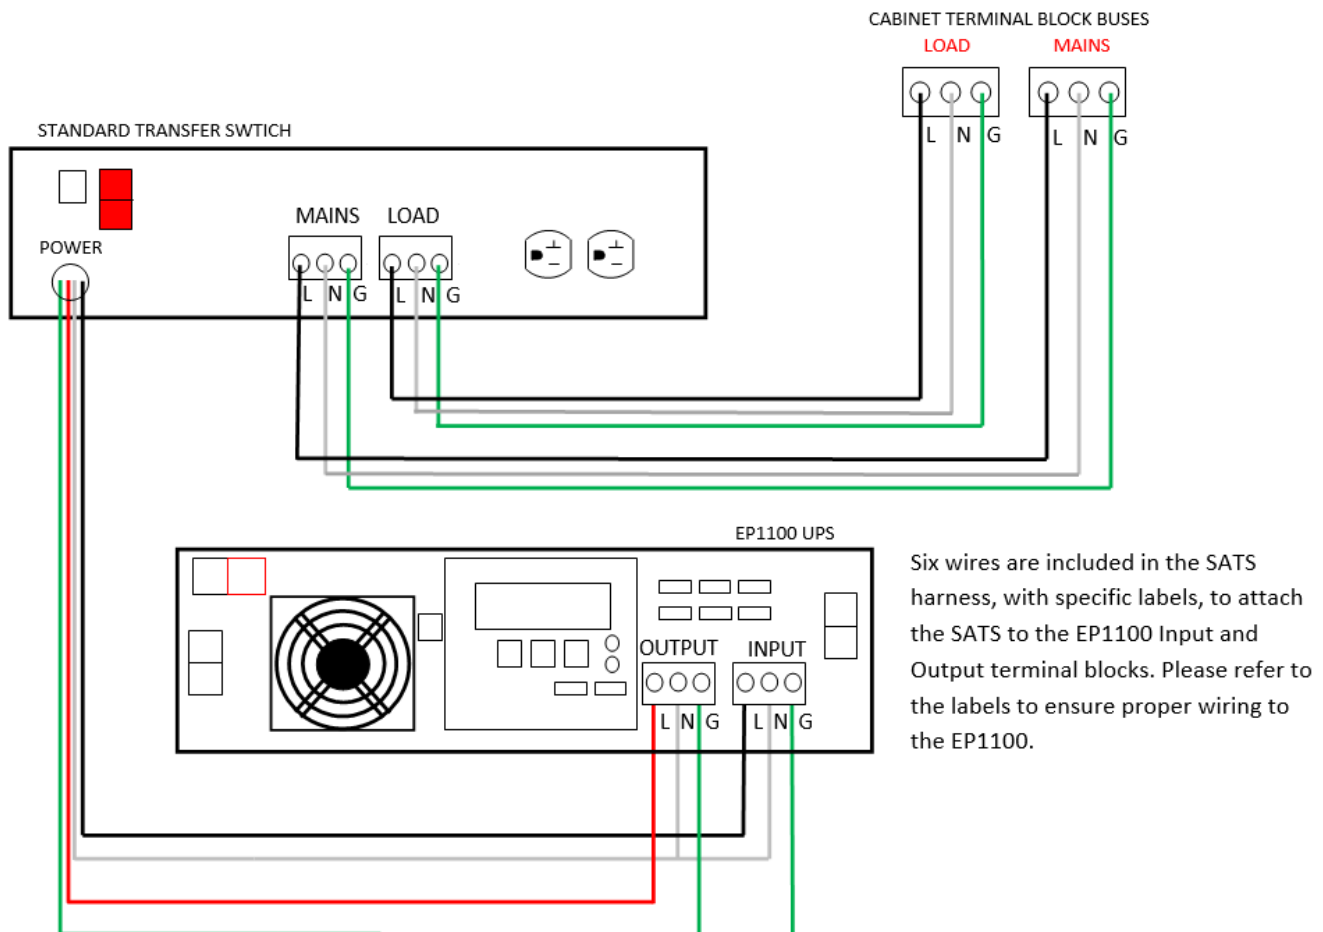

Fig. 4-1 STS and EP1100 (Line Interactive) wiring example
Connect the MAINS, LOAD, and monitor wiring to the STS according to the following procedure. Refer to Figs. 4-1 and 4-2 for control and connector positions.
3. Wire the STS as shown in Fig 4-1. Recommended wire strip length of 7mm. Secure the screw terminal contacts with a max torque of 7.0Lbf-in.